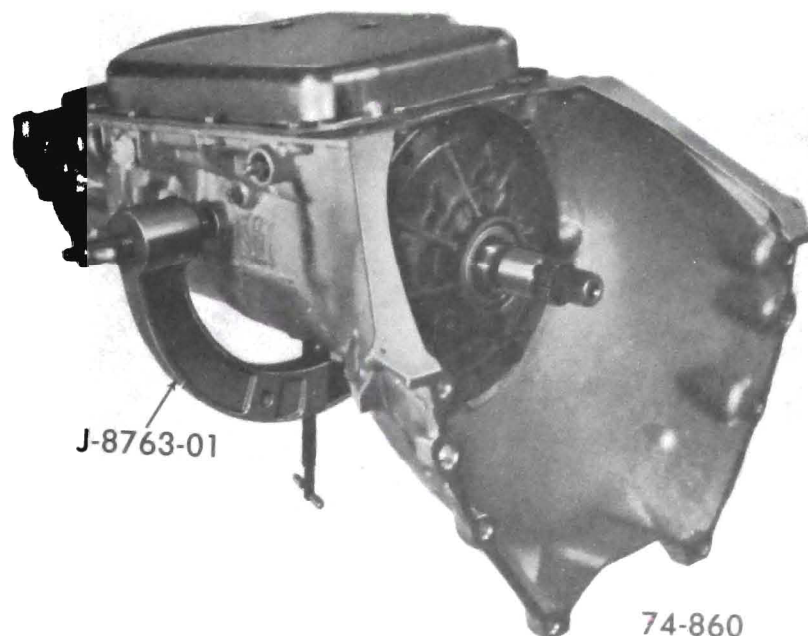

Figure 76-40
3. Install fixture and transmission into Holding Tool Base, J-3289-20, with bottom pan facing up. See Figure 76-40.